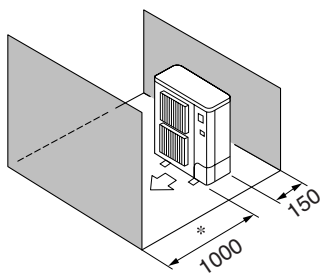

Fig. 2-6
⑤ Obstacles at front and rear only (Fig. 2-6)